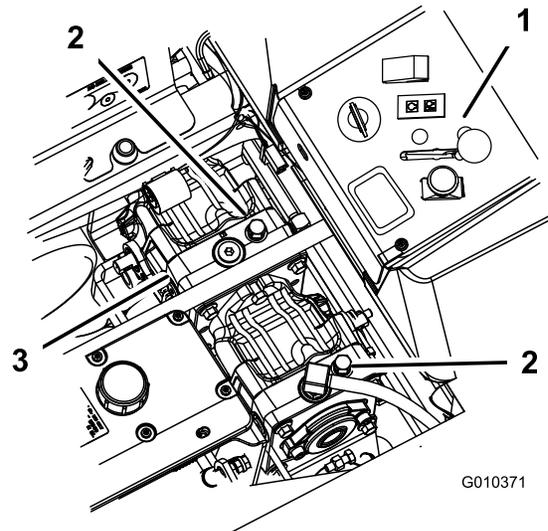

Figure 31
2. Rotate the by-pass valves counterclockwise 1 turn. This allows hydraulic fluid to by-pass the pump enabling the wheels to turn (Figure 31).
Rotate the by-pass valves clockwise 1 turn to operate machine (Figure 31).